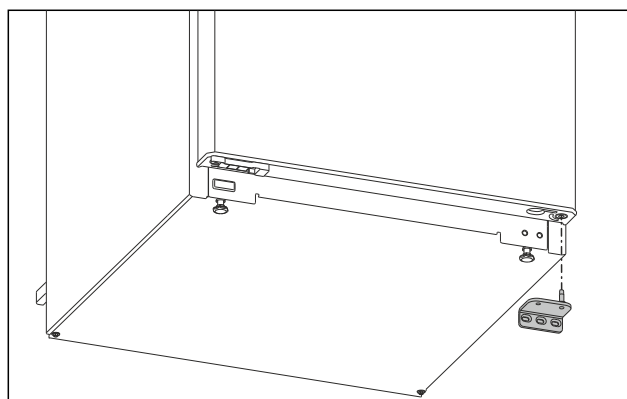

Fig. 5
- Remove the swap bearing block downwards. (see Fig. 5)